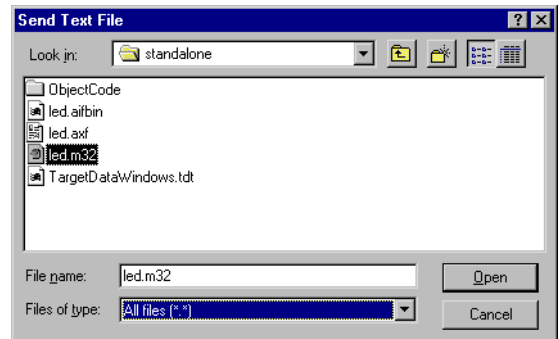

Figure 3-17 Select the file to download
- c. Select the .m32 file for downloading (see Figure 3-17).